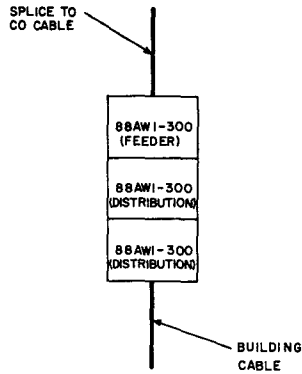

Fig. 22—Wall Mounted Terminal—300-Pair Entrance Cable (Nonprotected)—600-Pair Building Cable
4.11 At installations where 134-type protector(s) are not required, the 88-type hardware is installed the same as outlined in paragraphs 4.01 through 4.10 with the 134-type protector omitted (see Fig. 22, 23, 24, and 25).